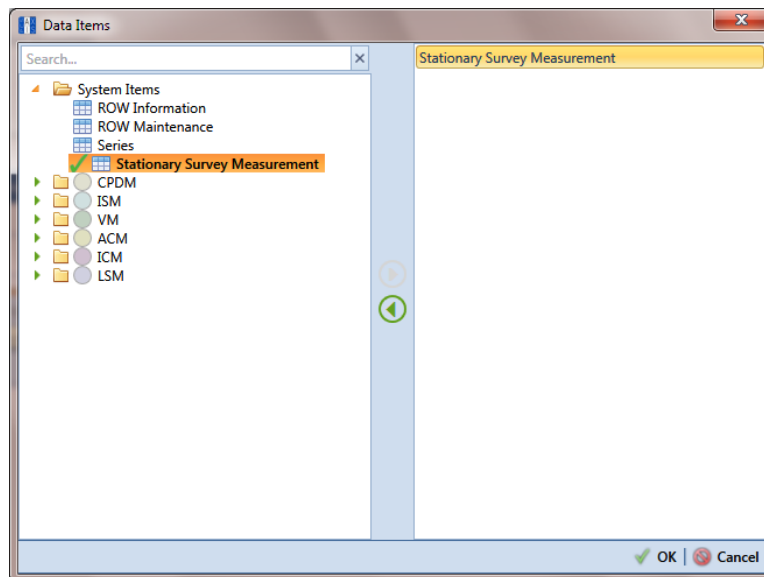

Figure 10-15. Data Items
- a Click the  to open the **System Items** folder (Figure 10-15).